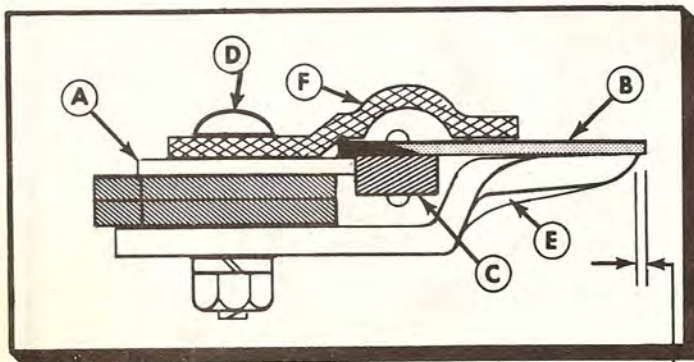

Fig. 21
## SICKLE CLEARANCE (FIG. 21)
Check the position of the forward ends of the sickle sections (B) to make sure that they protrude past the forward ends of the guards (E) FIG. 21 For cutting loose precut hay, dense, fine and loose under growths, etc.; without clogging, the sickle must contact the material ahead of any guard. 1/32" to 1/16" protrusion of the sickle beyond the guard is sufficient. If your "wear plates" (A) FIG. 21 are worn half-way through on the front edge, moving the wear plate forward will place the sickle in the proper position. If the wear plate is worn too much for making the proper adjustment, they should be replaced.
## WEAR PLATE ADJUSTMENT (Fig. 21)